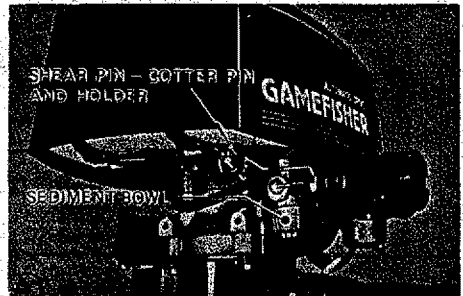

Figure 12
- b. Periodically check filter for dirt by unscrewing Sediment Bowl. (See Figure 12)
- c. Replace with new shear pin located in shear pin and cotter pin holder. (See Figure 12).